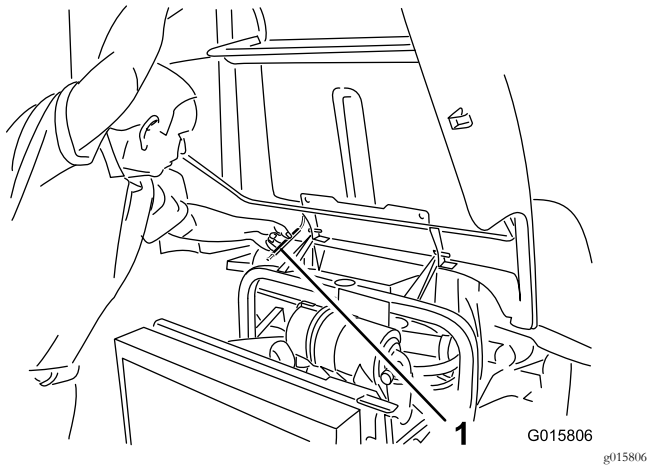

Figure 31
2. Lift up the hood until you can position the prop rod behind the frame tube (Figure 31).